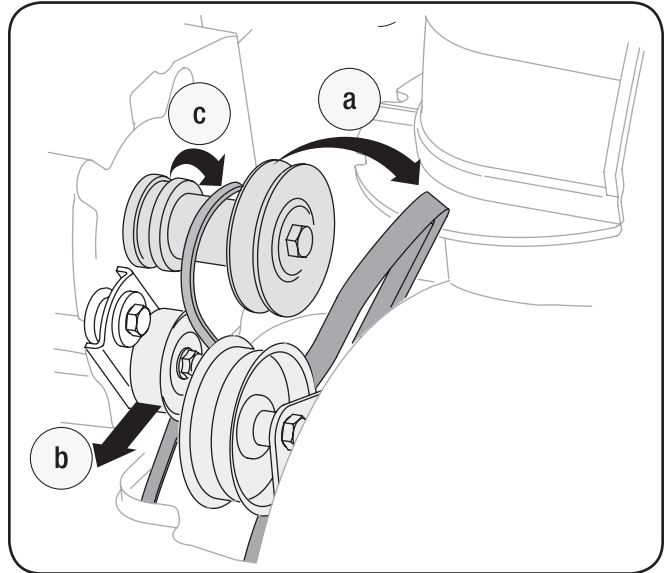

Figure 7-6
- Remove the belt as follows. See Figure 7-6: